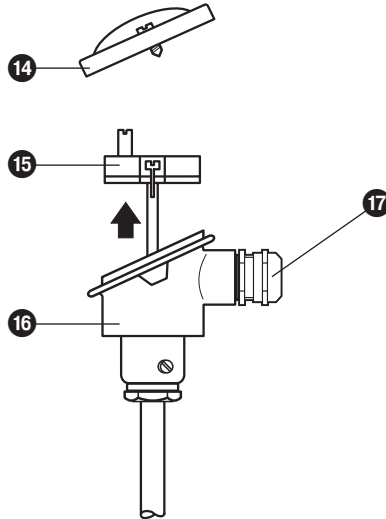

Fig. 9
2. Unscrew dome nut **18** of cable gland **17** and take out the lamellar insert **20**. **Fig. 9 and 10**